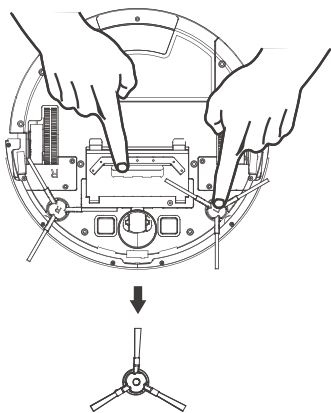

Figure 1
- Clean the side brush and suction inlet when they become dirty and replace them if they become damaged. (See figure 1)